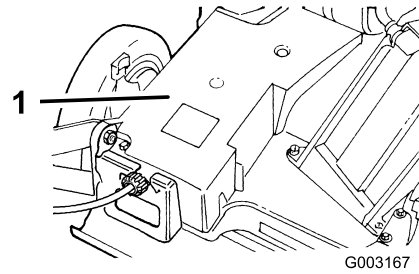

Figure 42
- Remove the bolts that secure the belt cover (Figure 42) to the lawn mower housing.